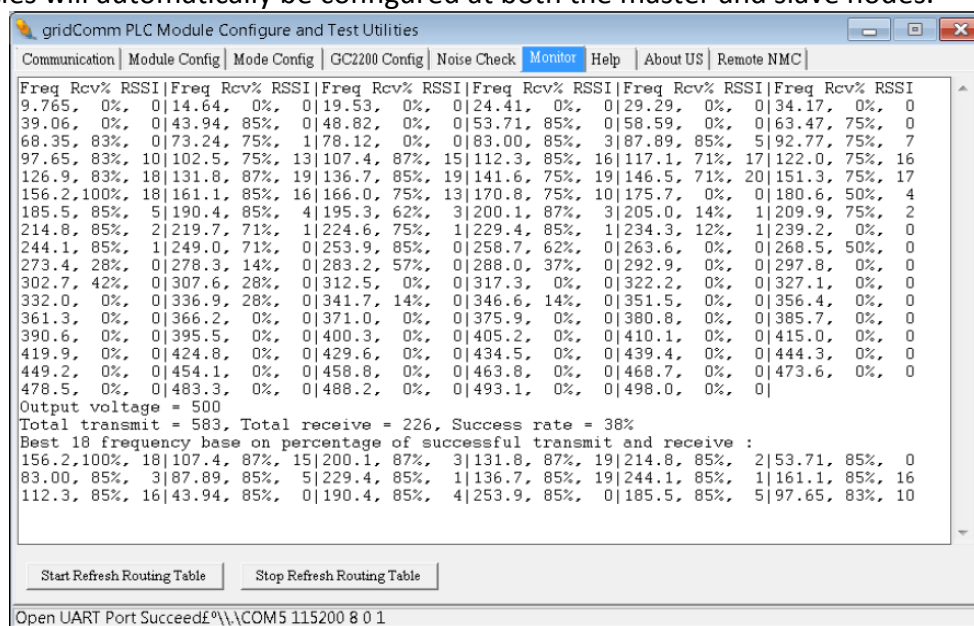

Figure 8 – Frequencies versus Received Success Rate and RSSI Values
- a) **Frequency vs RSSI:** When “Scan Frequency” is selected under “Operation Mode Configuration” under “Mode Config” tab, for a pair of nodes (configured as Master and Slave) in communications, the GUI on the master node will scan across the entire frequency range between the two nodes and display the Received Success Rate and the corresponding RSSI (Received Signal Strength Indicator) values (divided by a factor of 256 with figures between 0 to 256, 256 being the best signal strength). Under “Monitor” tab, “Freq” shows the carrier frequency in KHz, “Rcv%” shows the percentage of packets received over packets transmitted and “RSSI” shows the Received Signal Strength Indicator values of the particular frequency. The RSSI and Rcv% may be used to determine the best frequencies for communications. In general, the higher the RSSI value, the higher the chance of successful communications. However, as shown in Figure 8, there are instances where low RSSI values correspond with higher success rates. This is possible if there are